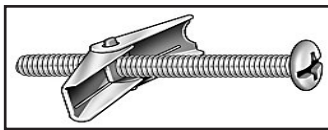

Figure 27. 3/16 Toggle-Bolt Anchor
- For every mounting hole that does not align with a structural framing member, a wall board toggle-bolt anchor must be used. See Figure 27.